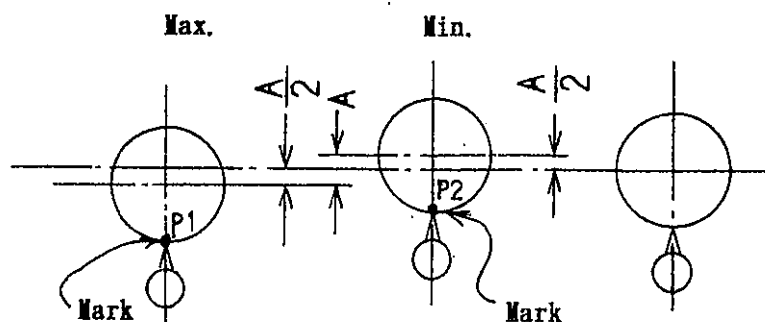

Fig. 7
(As shown in Fig. 7)
- e) Rotate the work spindle for positioning, so that the contact of the dial gauge comes to the position P2 in Fig. 7. (as shown in Fig. 8)